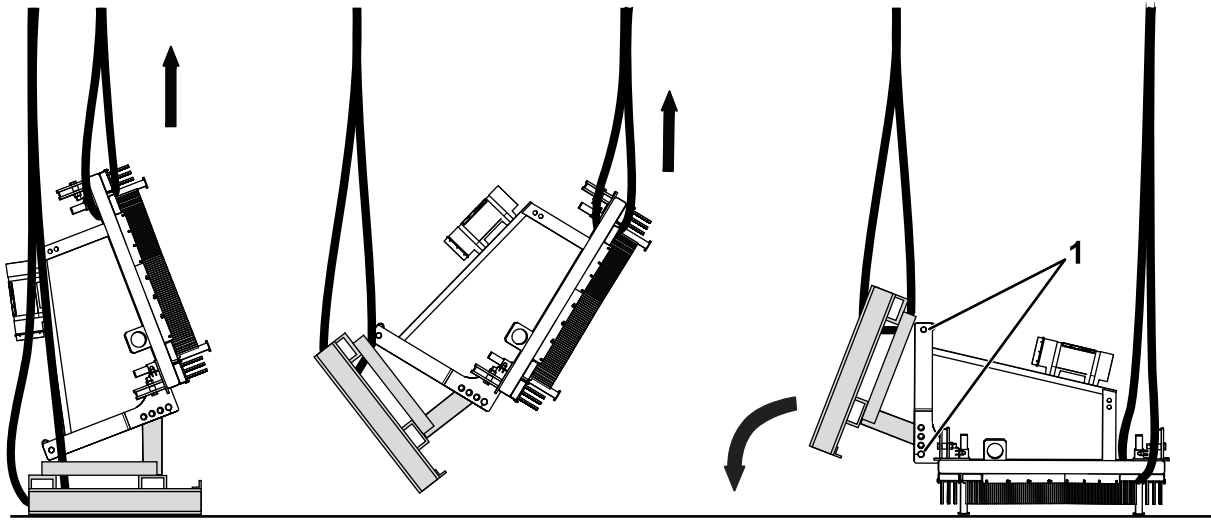

Figure 4
4. Gently lower the attachment in a controlled way as shown in Figure 4 until it is on the ground.